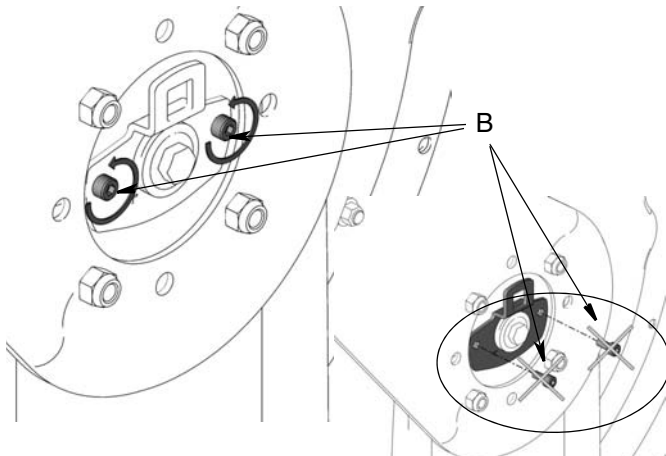

FIG. 24
2. Loosen screws (B) approximately 3 to 5 turns. **Do not remove screws (B) yet** (FIG. 24).